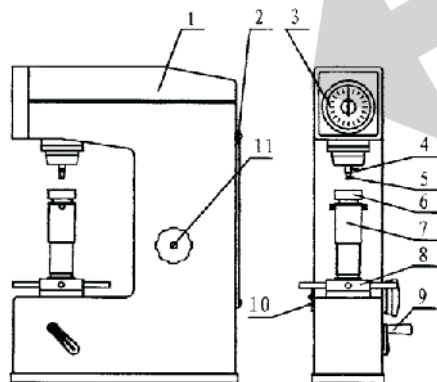
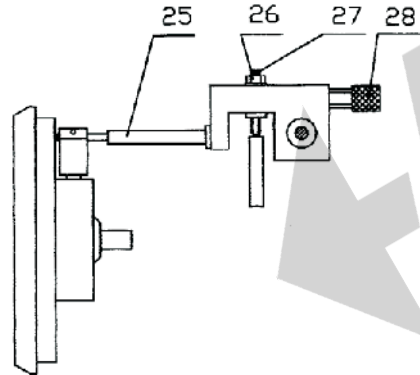

Figure 2
Figure 5
- 3 After the hardness tester is properly placed (see figure 2), remove the top cover (1). Untie the fastening white gauze tape on the extension rod (25, figure 5), then promptly replace the top cover to prevent dust from coming into the tester. Open the rear cover (2) and remove the white gauze tape on moveable parts. Wipe off the anti-rust oil on the lifting screw and apply some thin lubricating oil instead.
- 3 Adjustment of the hardness value display (figure 5).The accuracy of the tester is calibrated at factory. If any error is caused by improper handling during transportation, operator can make adequate adjustment but in prior to do that he shall thoroughly understand the structure and working principle of the tester apparatus. The procedure is as following: Remove the top cover. If displayed value is lower than the actual hardness of standard block, loosen M4 nut (26) and slightly turn in screw (28) clockwise, then tighten the nut and make the test again until the displayed value falls in the specified tolerance. If displayed value is higher, turn the screw counterclockwise.